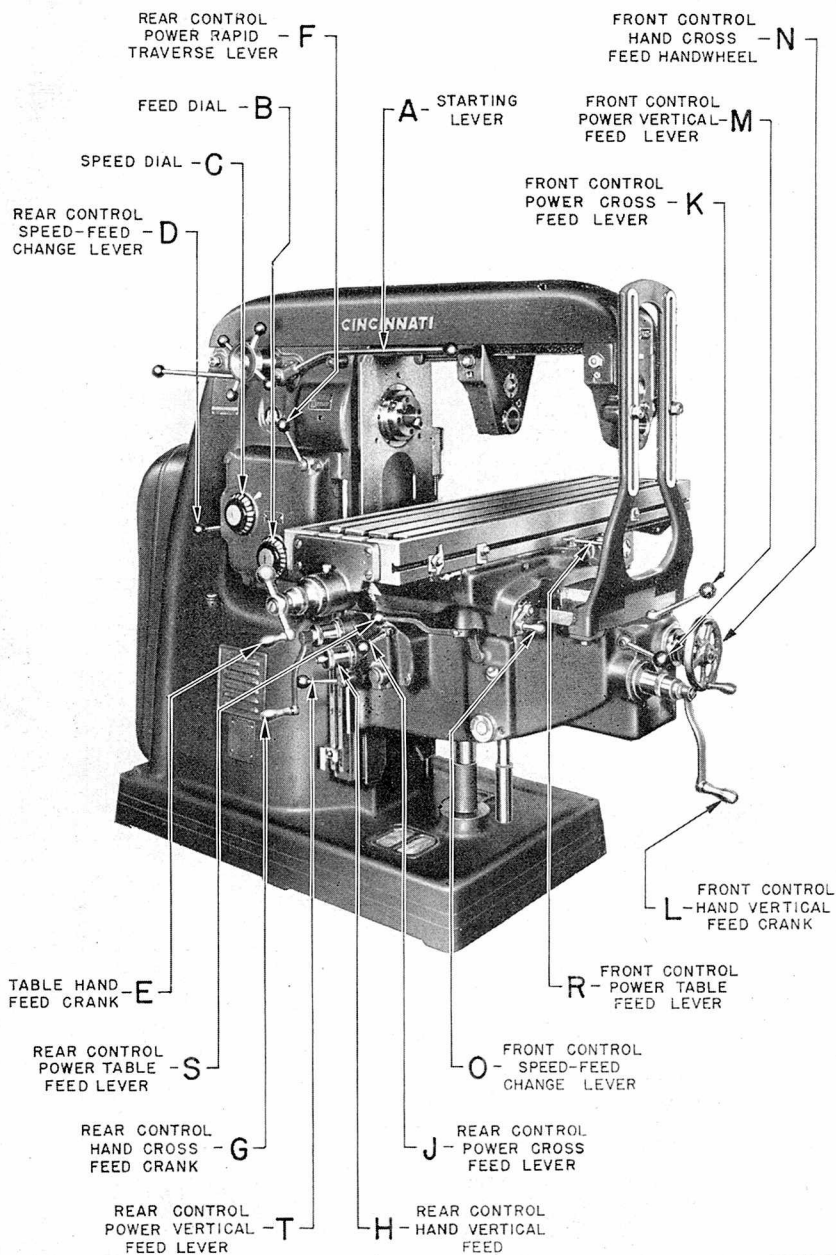
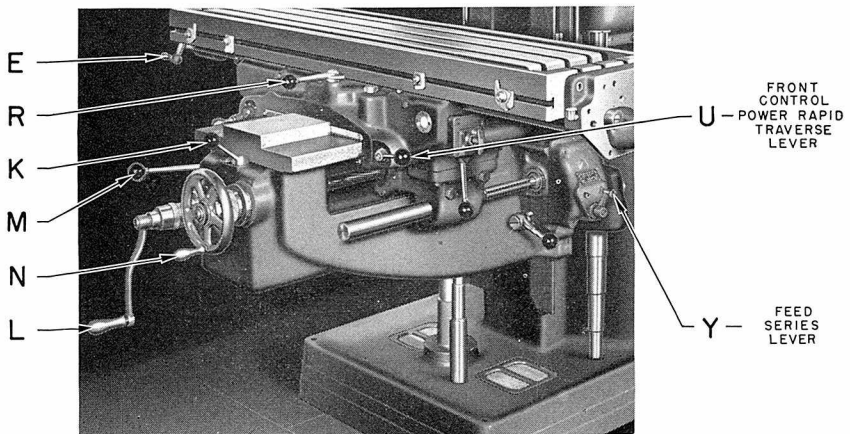

Figure 8
Figure 9
(Refer to Figures 8, 9 and 10 for these Instructions)
**Hand Table Feed.** Ball crank "E", Fig. 8, is for moving the table by hand when the power feed is disengaged. When the crank is rotated one turn in a clockwise direction the table moves to the right  $\frac{1}{4}$  inch. The dial is graduated into 250 equal spaces, which is equivalent to .001" movement of the table for each space. All micrometer dials may be reset by merely pulling them out against a light spring pressure, and rotating them to the desired marking.
**Hand Cross Feed.** Hand wheel "N", Fig. 8, is for moving the saddle by hand across the top of the knee when working from the front of the machine, while crank "G" is for moving the saddle by hand when working from the rear. The crank is interchangeable from "G" to "H". One clockwise turn of the handwheel or crank moves the saddle  $\frac{1}{4}$  inch towards the column. The dial is graduated into 250 spaces, which is equivalent to .001" movement of the saddle for each space.
**Hand Vertical Feed.** Crank "L", Figs. 8 and 9, is for moving the knee up or down when working from the front of the machine, while crank "H" is for moving the knee when working from the rear. One clockwise turn of either of these cranks moves the knee up  $\frac{1}{10}$  inch. The dial is graduated into 100 equal spaces, which is equivalent to .001" movement of the knee for each space.
**Changing Feeds.** Start the motor. Starting lever "A" and the three feed engaging levers ("K", "M", and "R" Fig. 9) should be in their neutral or stop positions, and the feeds SHOULD NOT be changed while any of these levers are engaged. Move speed-feed control lever "O" to "FEED". Hold it in position until the feed desired, shown on dial "B", registers with the arrow, then release the lever. The proper feed gears are now in mesh to move the table at the feed rate indicated by the dial and arrow.
Notice that an auxiliary feed change lever is available for obtaining high feed rates on High Speed Machines. This lever, "Y" in Fig. 9, is located on the right hand side of the knee. When the lever is engaged in the stop at the left, the high series is engaged, and the feed rates are twice those shown on the feed dial. When engaged in the stop at the right, the low series is engaged, and the feed rates correspond to those shown on the dial.
Dial "B" indicates the low feed series for the table and cross traverse. The high feed series, which is twice the dial reading, is obtained by shifting lever "Y" (Fig. 9) to the left. The vertical rate of traverse is .8 the indicated feed with lever "Y" in the position shown, and 1.6 when it is shifted to the left.
**Power Rapid Traverse.** The power rapid traverse, controlled from the front of the machine by the lever "U" (Fig. 9) and from the rear of the machine by lever "F" (Fig. 8), may be engaged at any time and for any direction of travel with the spindle either running or stationary. (Of course, the motor must be running.) The feed lever which will give the direction of travel desired must also be engaged at the same time that the rapid traverse lever is engaged.
When the low feed series is engaged on High Speed machines (lever "Y", Fig. 9, to the right) the rapid traverse rates are 50 inches a minute longitudinal and cross, while the vertical rapid traverse is 40 inches a minute. When the machine is equipped with the special low feed series, i.e.  $\frac{1}{2}$  of the standard rates tabulated herein, then all rapid traverse rates are divided by 2.
**Power Rapid Traverse.** The power rapid traverse is controlled by feed lever "X" and the regular rapid traverse lever (Fig. 9) in front of the saddle. Move the feed lever in the direction you want the head to move and then hold the quick traverse lever in its engaged position. The rapid movement of the head is at the rate of 44" a minute for the medium speed machine and 31" a minute for the high speed machine. See paragraph entitled "Four Position Turret Stop and Dial Indicator."